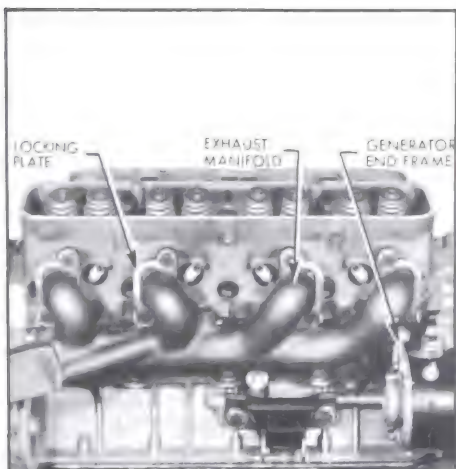

Figure 2-25—Exhaust Manifold Installation
3. Assemble exhaust manifold to cylinder head with bolts and locking plates as shown in Figure 2-25. Torque bolts to 10-15 ft. lbs.